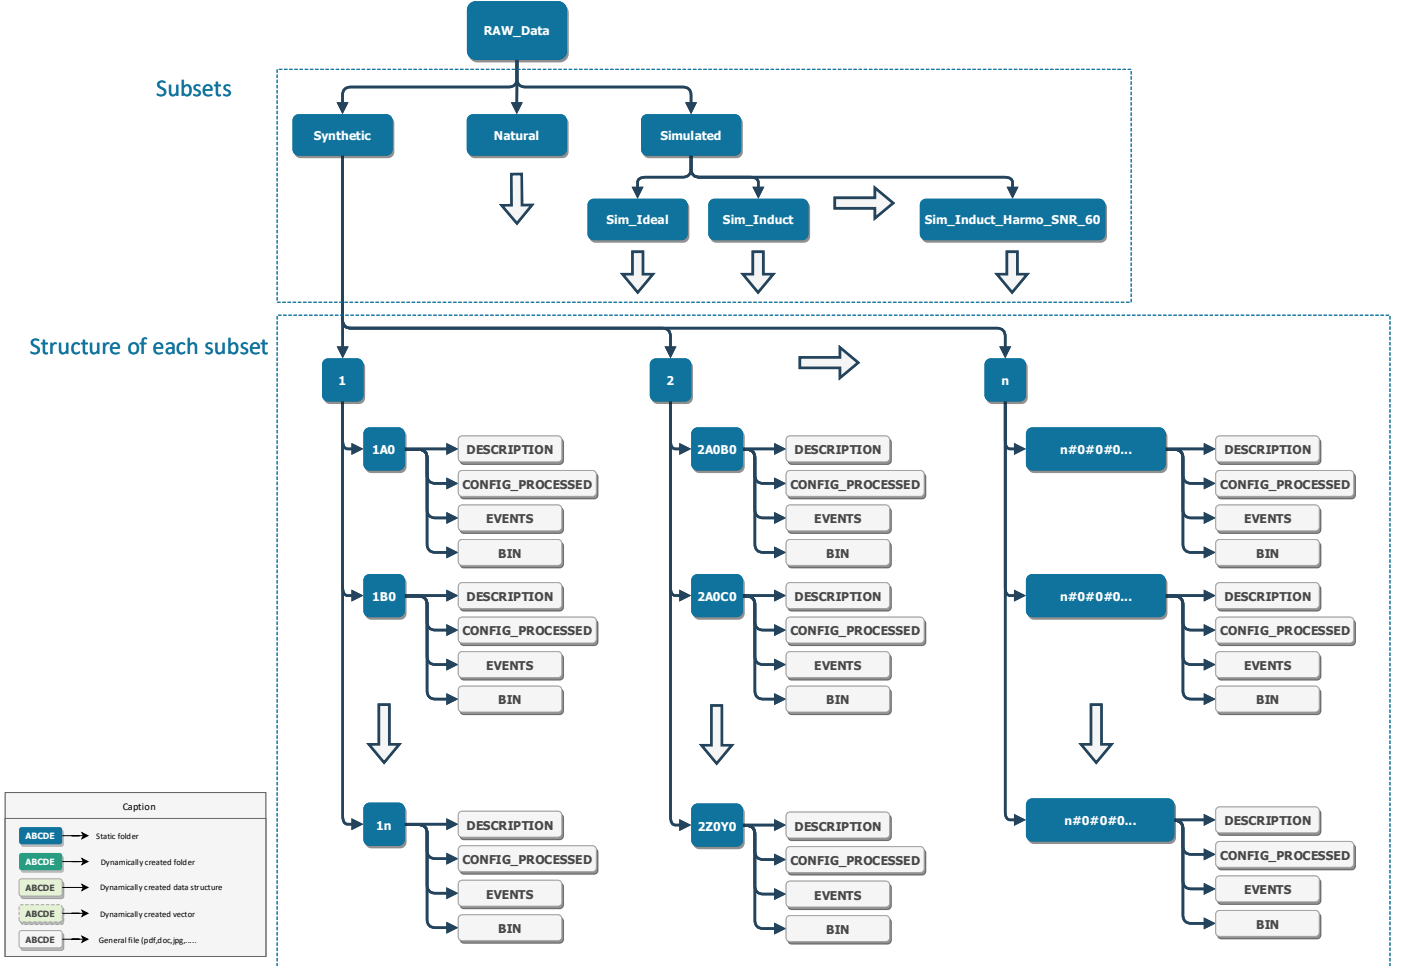

Figure 7: RAW_Data folder structure.
RAW_Data: This folder holds the raw acquisition files (in binary format) as downloaded from the website. Its contents is detailed in Figure 7. Note that inside the *RAW_Data* folder there is one folder for each subset (Synthetic, Simulated and Natural). Each subset is further decomposed in folders with single load acquisitions (1), two concurrent load acquisitions (2) and so on. Further documentation is available in the pdf files in the Documentation folder.